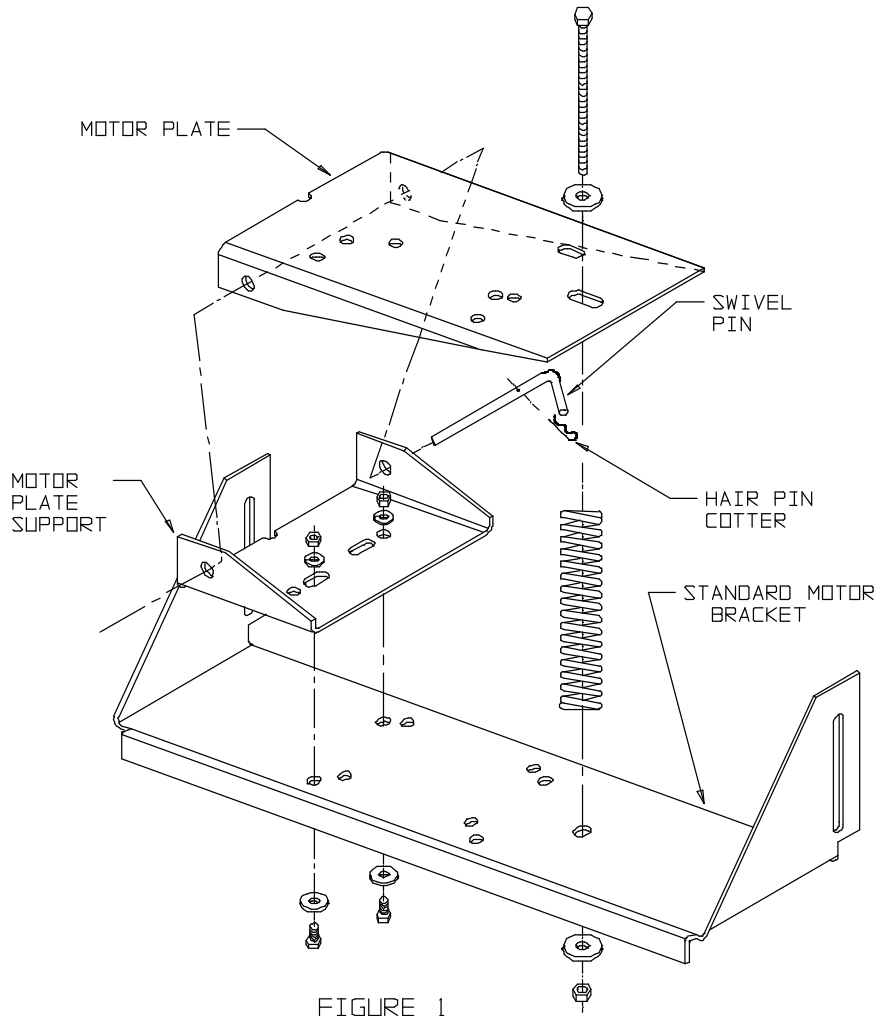
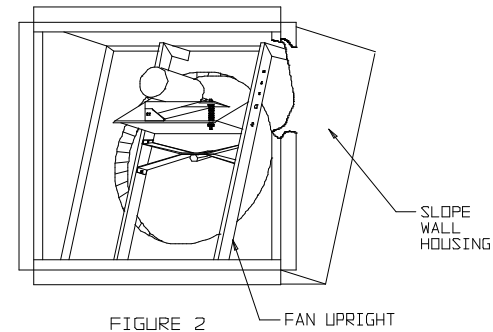

FIGURE 1
FIGURE 2
- 2) WHEN USING A FAN WITH THE ABT AND THE SLOPE WALL HOUSING, THE MOTOR MUST BE LOCATED AT THE TOP OF THE FAN. SEE FIGURE 2. REMOVE THE STANDARD MOTOR BRACKET FROM THE FAN AND MOUNT THE ABT MOTOR PLATE SUPPORT ON THE STANDARD MOTOR BRACKET USING THE 5/16" BOLTS, NUTS, FLATWASHERS AND LOCKWASHERS SUPPLIED. SEE FIGURE 1. NEXT, BOLT THE MOTOR TO THE ABT MOTOR PLATE USING THE 5/16" BOLTS, NUTS, FLATWASHERS AND LOCKWASHERS THAT WERE SUPPLIED WITH THE FAN. MAKE SURE THE MOTOR SHAFT IS FACING TOWARD THE FAN BLADE ASSEMBLY. SEE FIGURE 2.
- 3) INSERT THE SWIVEL PIN THROUGH THE MOTOR PLATE SUPPORT AND THE ABT MOTOR PLATE. PLACE THE HAIR PIN COTTER PIN THRU THE HOLE IN THE SWIVEL PIN INSIDE THE ABT MOTOR PLATE SUPPORT AS SHOWN IN FIGURE 1.
- 4) NOW, PLACE THE SPRING BETWEEN THE ABT MOTOR PLATE AND THE STANDARD MOTOR BRACKET AND PUT THE 7 INCH LONG 3/8" BOLT, WITH A 3/8" FLATWASHER, THROUGH THE ABT MOTOR PLATE, THE SPRING AND THE STANDARD MOTOR BRACKET AS SHOWN IN FIGURE 1. FASTEN IN PLACE USING THE 3/8" FLATWASHER AND 3/8" NYLON INSERT LOCKNUT. COMPRESS THE SPRING BETWEEN THE ABT MOTOR PLATE AND THE STANDARD MOTOR BRACKET BY TIGHTENING THE 3/8" NYLON INSERT LOCKNUT 16 TURNS (1 INCH).